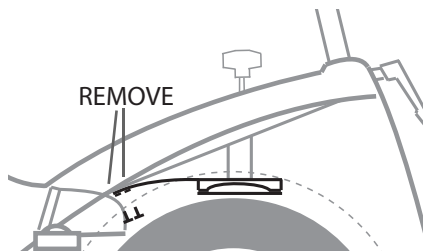

Figure 15
- 3: Remove the two screws holding the brake block to the frame by using an 8 mm wrench, see figure 15